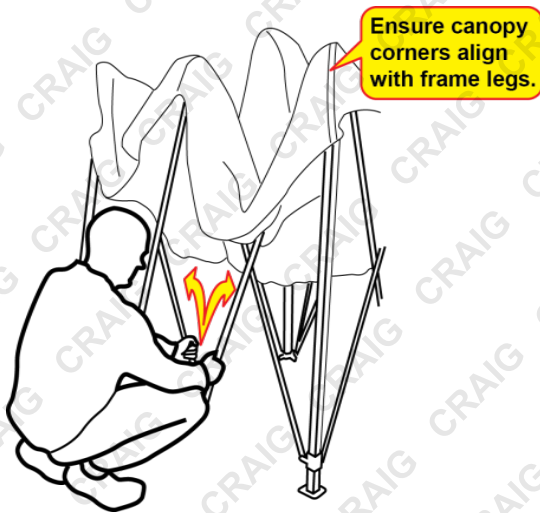
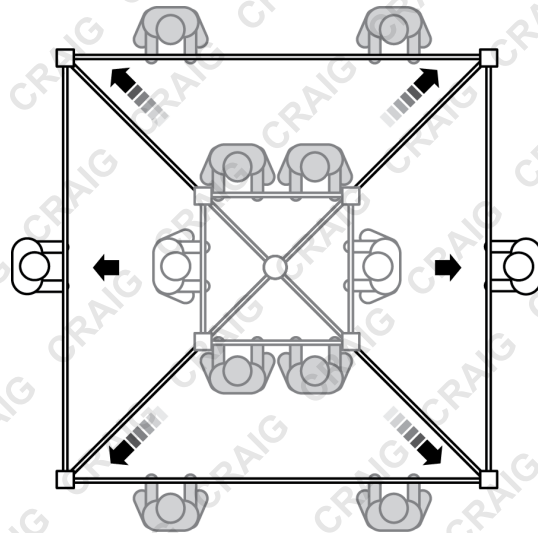

Fig 3 - Hold Frame, Lift and Expand
Fig 4 - Expanding the Frame
- On opposite sides of the gazebo, grab the middle section of the frame with both hands (Fig 3). Simultaneously lift the sections of frame up and slowly move backwards, allowing the frame to expand to its full size (Fig 4). For larger model gazebos it is recommended to have 2 people on each long side of the frame (shaded figures in the image) and to lift together to expand the frame.